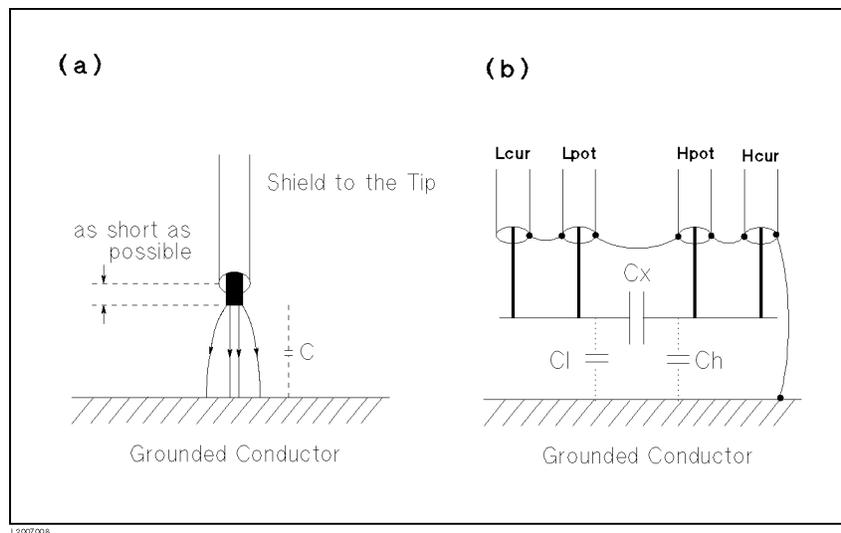

Figure 7-7. Reducing Capacitance to Ground
To minimize the stray capacitance of the test leads, the center conductor of the test leads should be kept as short as possible, as shown in Figure 7-7, (A). If four-terminal pair connections are close to the point where contact is made with the DUT, interconnect the shields of the measurement terminals to the conductor to reduce the influence of the stray capacitance to ground, as shown in Figure 7-7, (b).